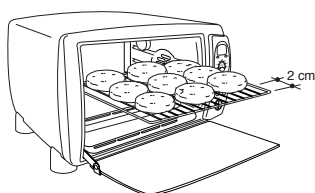
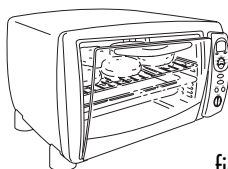

fig. 1
fig. 2
Place the food being grilled directly on the wire rack (Figure 1) and close the door, leaving it ajar, as shown in Figure 2; remember to turn the food half way through cooking.
Important: for best results, place the food on the wire rack (I), leaving an empty space of around 2 cm near the door (see Figure1).